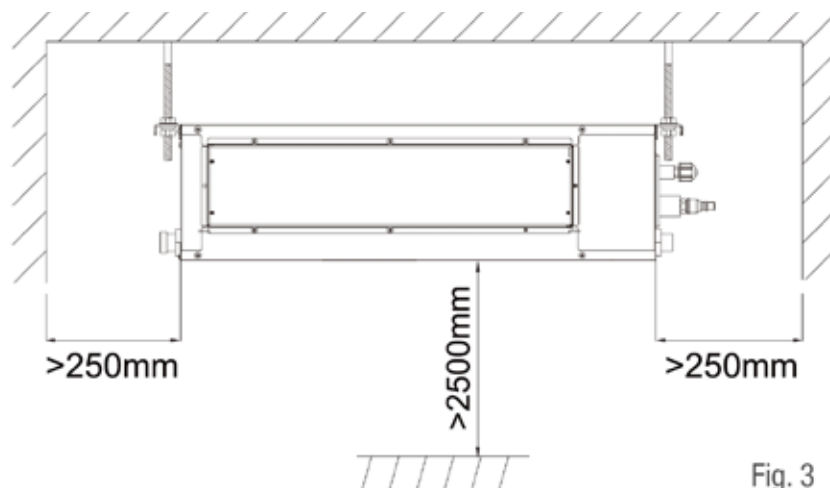

Fig. 3
4. Ensure the clearances shown in Fig. 3 to allow for maintenance.